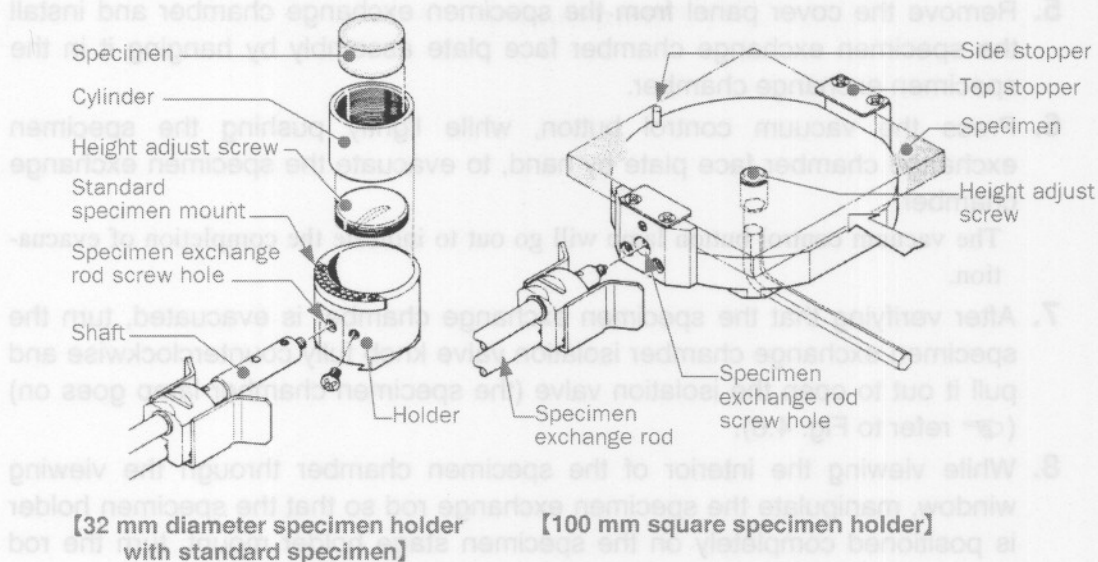

Fig. 5.16 Specimen holders (for LSS)
- 32 mm diameter specimen holder (with standard specimens), 10 mm diameter specimen holder, and 5 mm diameter specimen holder (☞ refer to Fig. 5.12 and Fig. 5.16)
- Large specimen holder for LSS (☞ refer to Fig. 5.16)
Place the holder from the adapter slot side following the guide grooves on the adapter with the specimen exchange rod screw hole facing the front, and push it to the stopper (☞ refer to Fig. 5.16).
The procedure for loading the specimen is described here (☞ refer to Fig. 5.15 and Fig. 5.16).
☞ When using the 32 mm diameter specimen holder, securely screw the shaft into the specimen exchange rod beforehand (☞ refer to Fig. 5.16).